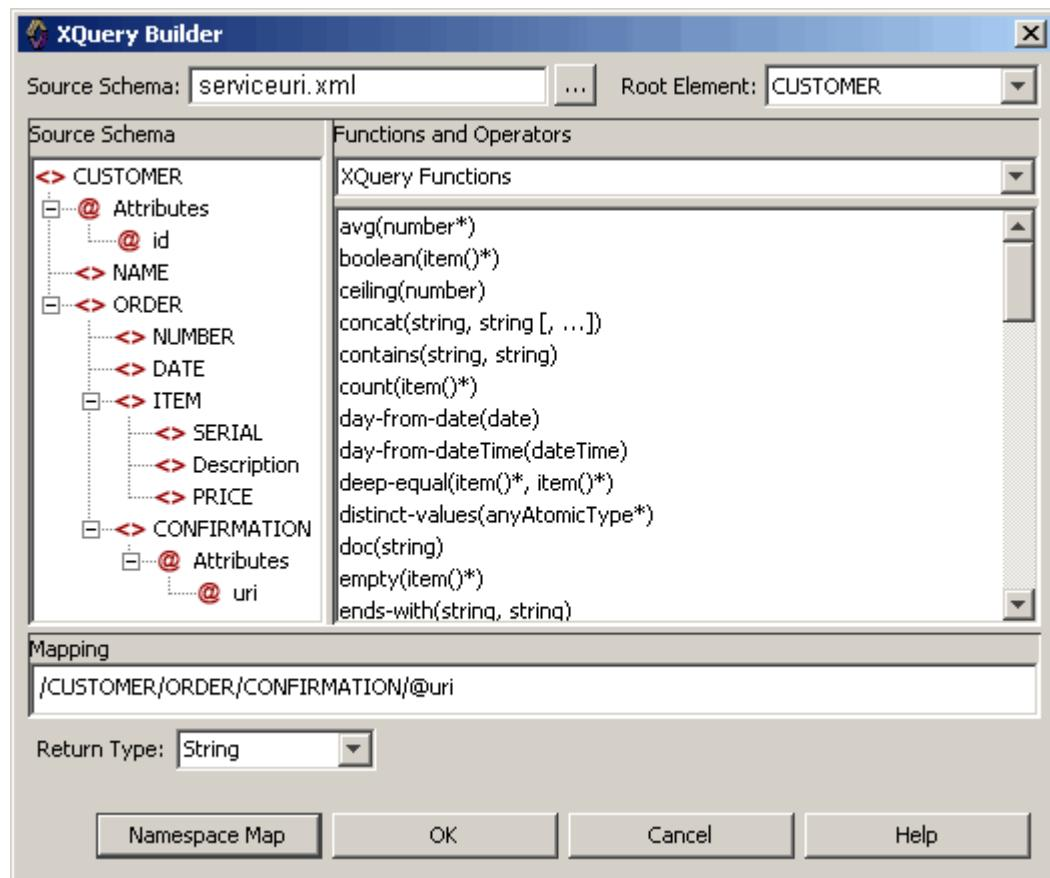

Figure 9-3 Mapping the URI Attribute in the XQuery Builder
- In the Source Schema pane (Figure 9-3), expand /CUSTOMER/ORDER/CONFIRMATION/Attributes and drag URI to the Mapping pane. Click **Ok** to exit the XQuery Builder. Click **OK** to exit the Service URI window.